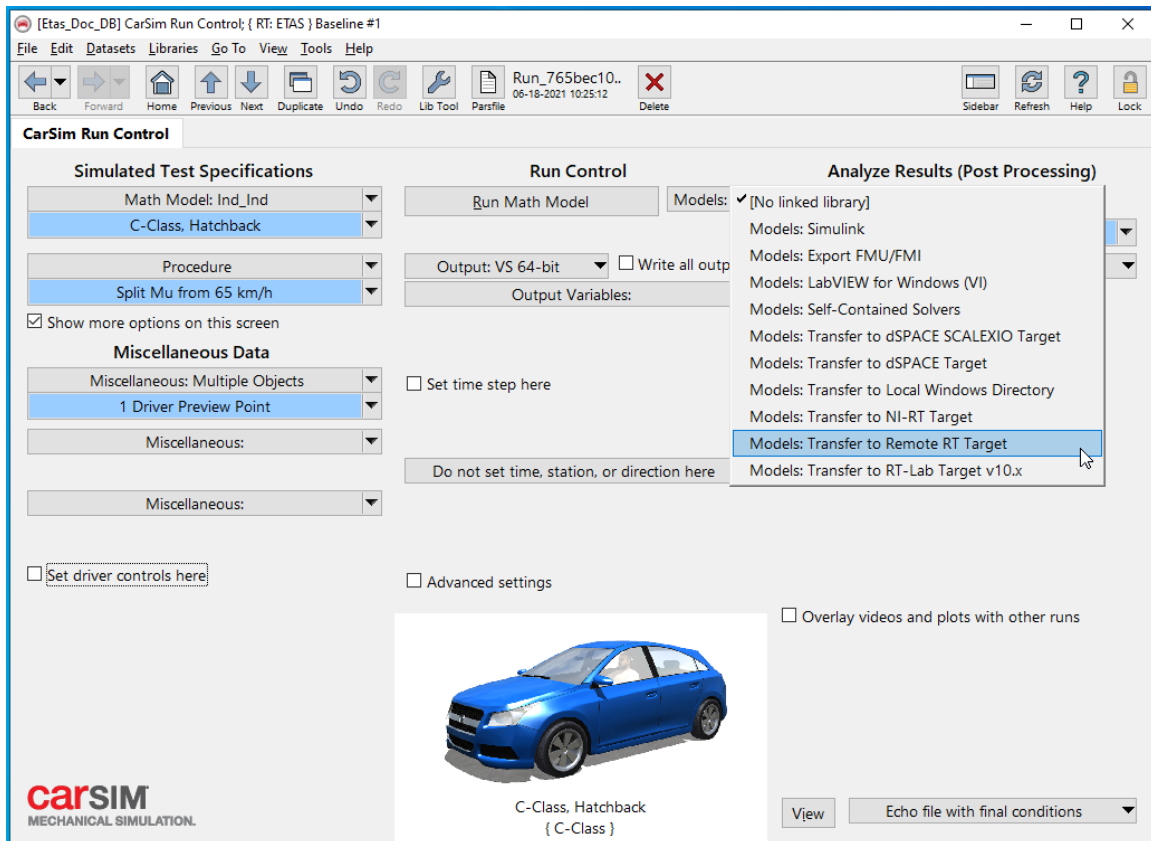

Figure 53. CarSim Run Control: change the linked Models library.
2. Use the **Models** drop-down list to specify the library **Models: Transfer to Remote RT** (Figure 53).